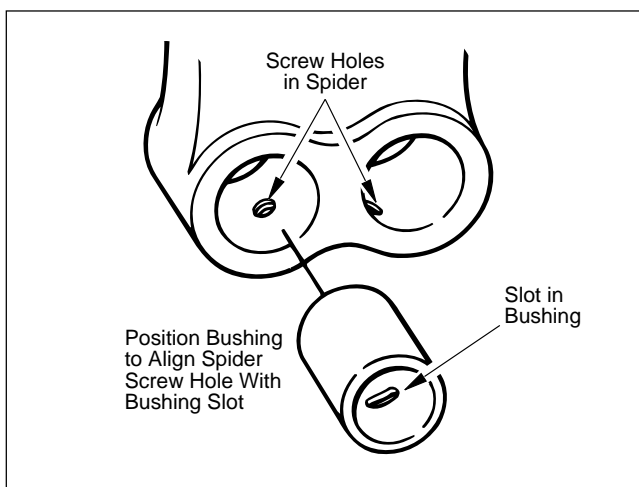

Figure 67. Anchor Pin Bushing Installation
3. After driving out old anchor pin bushings from spider, see **Removal/Disassembly - Shoe Removal**, press new anchor pin bushings in spider, aligning slot in bushing with tapped holes in spider. Refer to Figure 67.